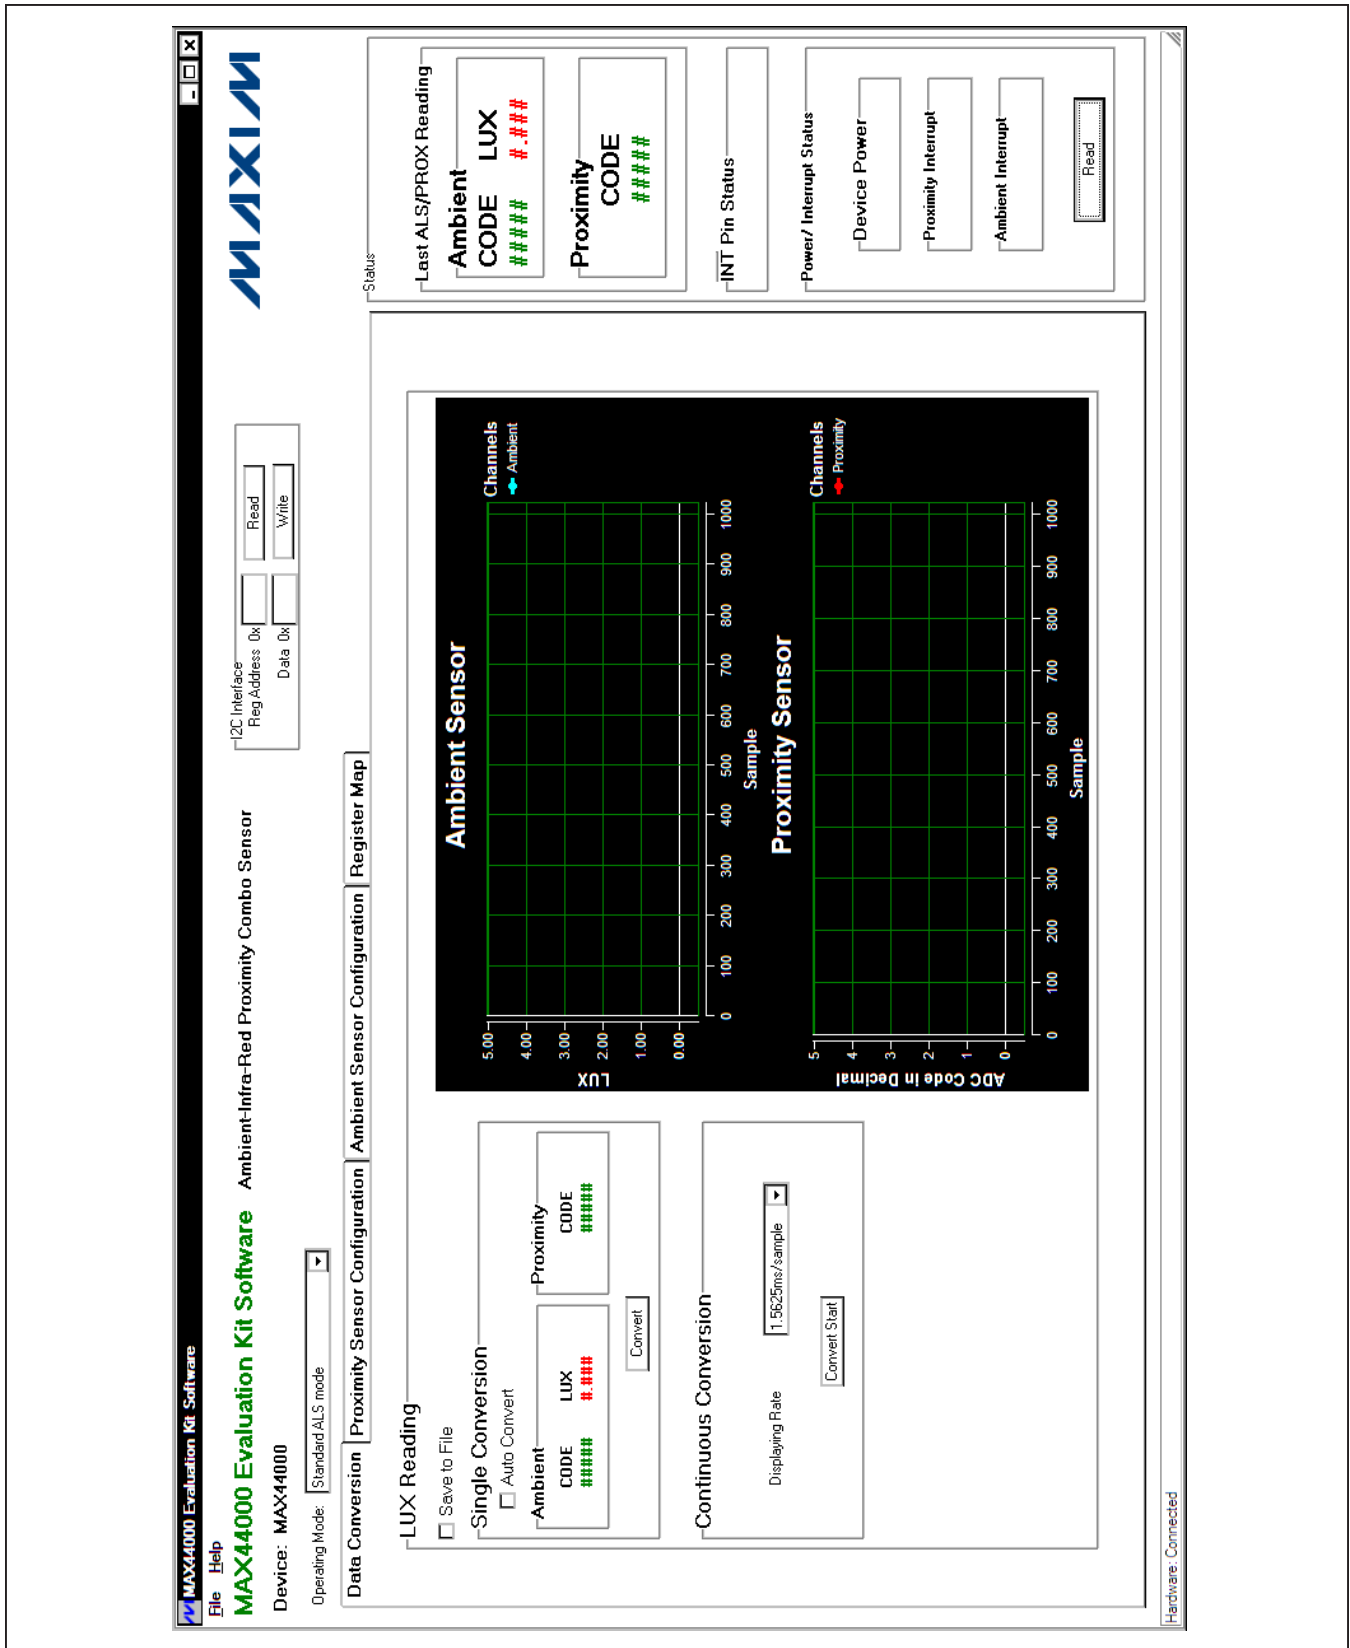

Figure 1. MAX44000 EV Kit Software Main Window
- 5) Start the EV kit software by opening its icon in the **Start | Programs** menu. The EV kit software main window appears, as shown in Figure 1.
- 8) On the **Data Conversion** tab sheet (Figure 1), press the **Convert Start** button in the **Continuous Conversion** group box to view the ambient and proximity ADC data on the graphs.
The MAX44000 EV kit software (Figure 1) has all the functions to configure the MAX44000 and receive the ADC data from the device. The software contains an **I2C Interface** group box, a **Status** group box, and four tab sheets to configure the device and receive the ambient and proximity data from the device.
In the **Status** group box, the **Last ALS/PROX Reading** group box displays the last set of ambient and proximity ADC data from the graphs on the **Data Conversion** tab sheet (Figure 1).